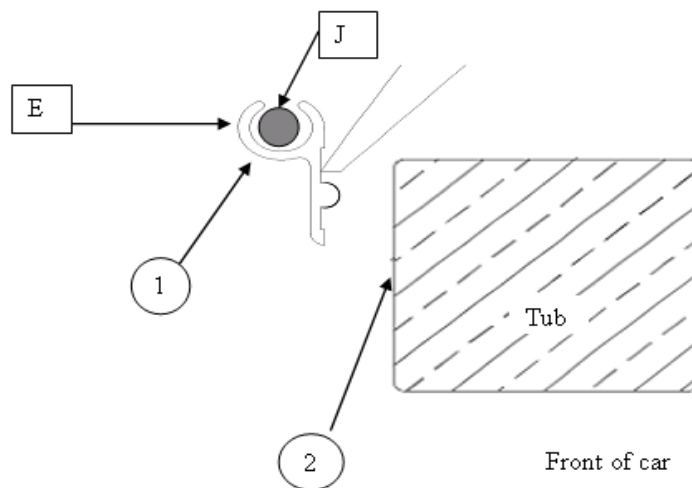

Figure 1.
1. Using two pieces of dowel, join the 3 aluminum rope tracks together Place the other 2 pieces of dowel in the ends of the now joined rope track. Rest the aluminum rope track on the side rails, ensure the flat side of the rope track is the surface positioned against the tub face. See Figure 1 & 2